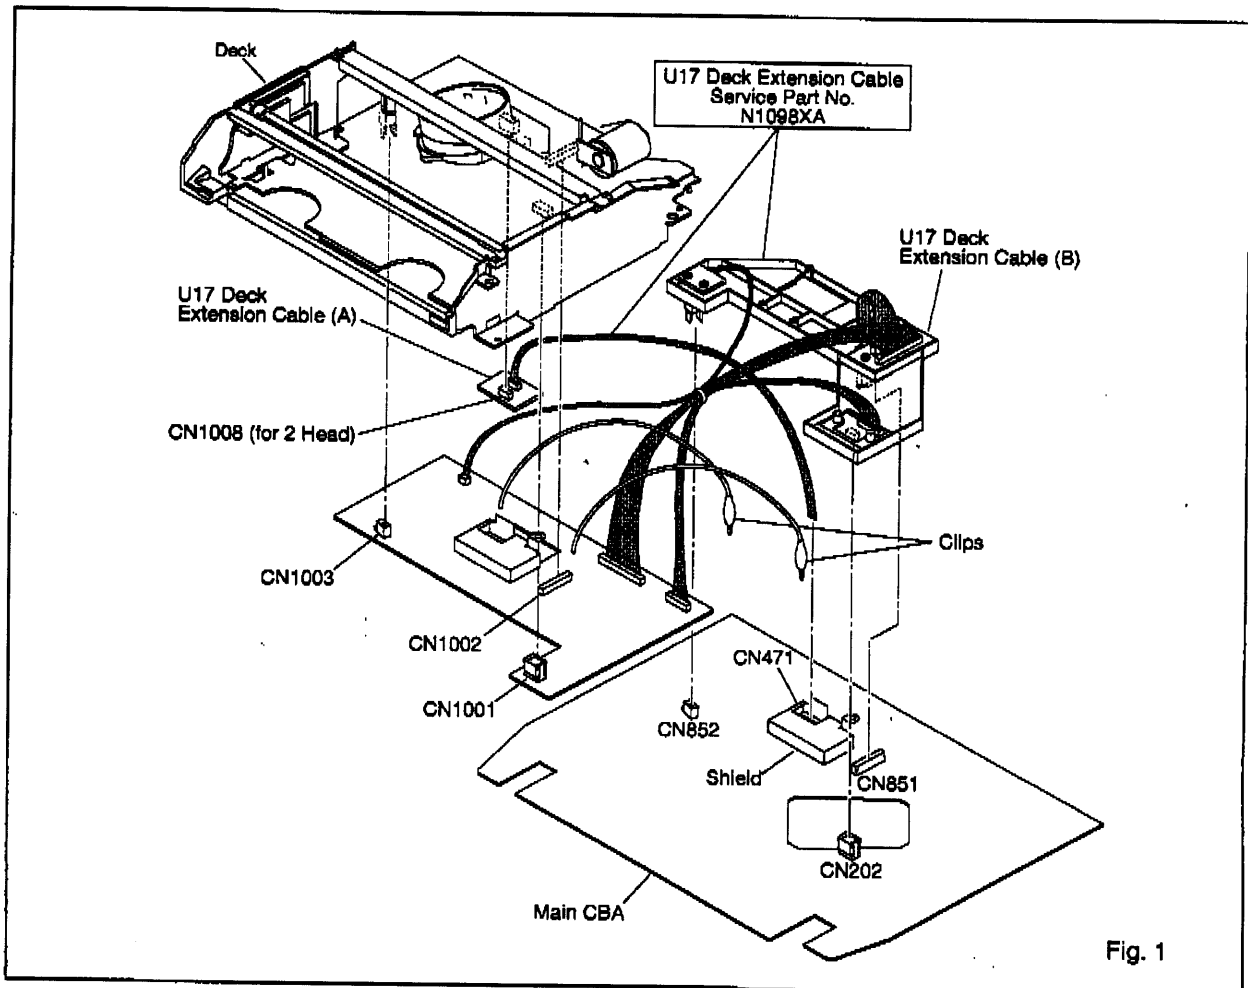

Fig. 1
- (1) Remove Deck Mechanism Assembly. If needed, remove the Main CBA from Tray Chassis. Refer to "Disassembly Instructions" on page 1-6-1.
- (2) Connect Main CBA and Deck with the U17 Deck Extension Cable (A) as shown in Fig. 1. And connect Main CBA and Deck with U17 Deck Extension cable (B) as shown in Fig. 1. Connect the 2 clips to the Shield plate on the Main CBA.